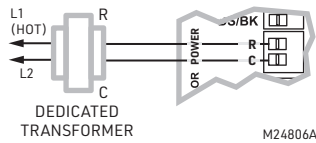

Fig. 4.
3. Connect a 24V, 40 VA transformer to terminals R and C. R is Hot and C is 24 Vac (Common). See Fig. 4.